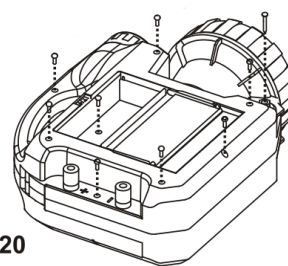

Fig.20
- Face the POWER TANK down and open into 2 halves by unscrewing screws counterclockwise. (Fig. 20)